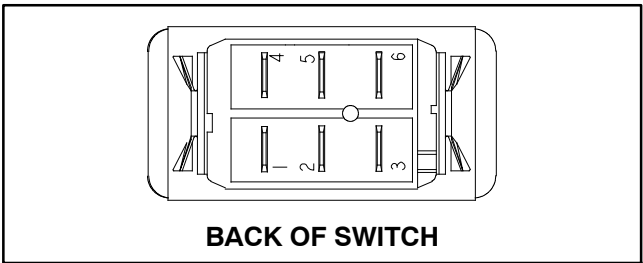

Figure 39
4. The speed switch terminals are marked as shown in Figure 39. The circuit logic of the switch is shown in the chart below. With the use of a multimeter (ohms setting), the switch functions may be tested to determine whether continuity exists between the various terminals for each position. Verify continuity between switch terminals. Replace switch if testing identifies that switch is faulty.